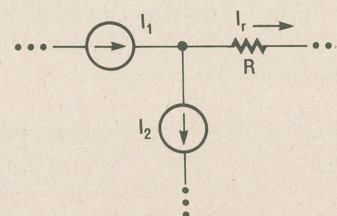

Fig. 1. The uncertainty of component values leads to uncertainties in the values of current through a circuit. The overall uncertainty can really add up.
Fig. 1. Access III is essentially a telephone-tone decoder that produces a weighted binary output that is fed to D flip-flops, which are used to activate individual Triac circuits that apply power to the connected devices.
Assemble the circuit guided by the schematic diagram in Fig. 1. The author used sockets for all of the IC's in the project; point-to-point wiring was used to interconnect the board-mounted components. Begin assembly by mounting the IC sockets to the board, and then wire the support components to the sockets. In the case of the optoisolator/coupler board, make sure that the connections between each Triacs' main terminals (MT1 and MT2), the receptacles, and the bypass switches use well-insulated, heavy, stranded, 12-gauge wiring, and all solder connections for those lines should be insulated with heat-shrink tubing.
Now let's apply the above procedure to the subtraction operation. Figure 1 shows a segment of a larger circuit, in
The concept of multiplexing can best be illustrated using a couple of single-pole double-throw switches, as shown in Fig. 1 (simplistic though it may be), where two input signals and two output devices share a single current path. For the sake of discussion, let's assume the A input signal is applied to switch S1 and switch S2 is connected to the A output device. After a period, the control sig-
*Fig. 1. To reduce the hardware needed to implement multi-digit displays, a technique known as multiplexing is used. A multiplexer is actually a signal selector circuit (or multi-position switch) that allows a form of time sharing of current paths.*